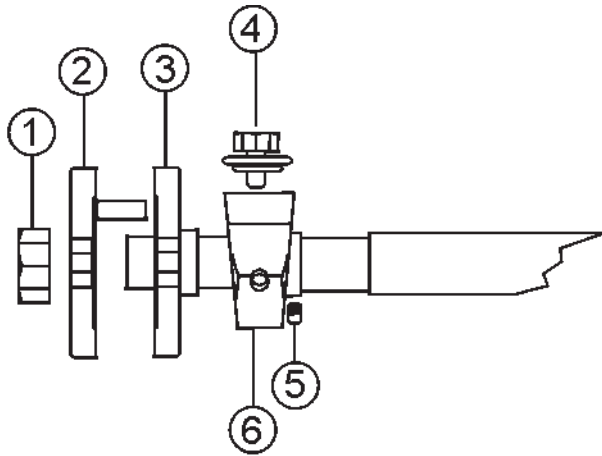
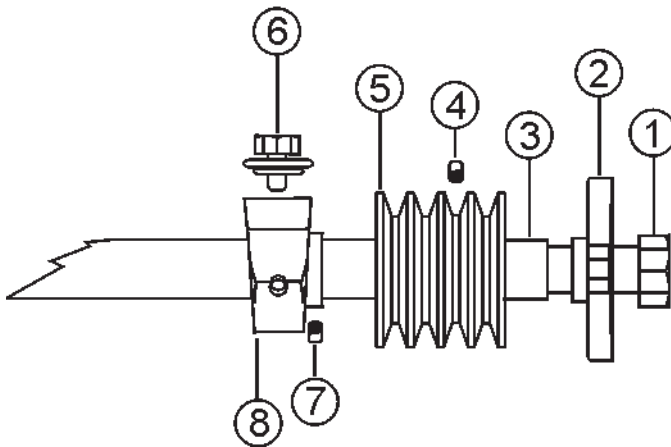

Figure 50. Blade Side Bearing (Right Side)
Figure 51. Pulley Side Bearing (Left Side)
The Cutter 3 saw is supported by “tapped base lock collar (w/set screw)” self-aligning **Blade Shaft Bearings** (Figures 51 and 52). These heavy duty bearings support the 1-1/4 blade shaft, and have grease (zerk) points conveniently located for service.
Reference Figure 50 & Figure 51 for steps 4-9
4. Remove **Blade Hex Nuts** (Figures 50 & 51, item 1) and **Outside/Inside Blade Flanges** (Figures 50, item 2 & 3)
5. Loosen **set screws** (Figure 51, item 4) and slide **Pulley** (Figure 51, item 5) off the Blade Shaft. Loosen Bearing set screw, remove **Bearing Bolt** (Figure 51, item 6) and slide the **Blade Shaft Bearing** (Figure 51, item 8) off the blade shaft.
6. Loosen **set screws** (Figure 50, item 5), remove **Bearing Bolt** (Figure 50, item 4) and slide the **Blade Shaft Bearing** (Figure 50, item 6) off the blade shaft.